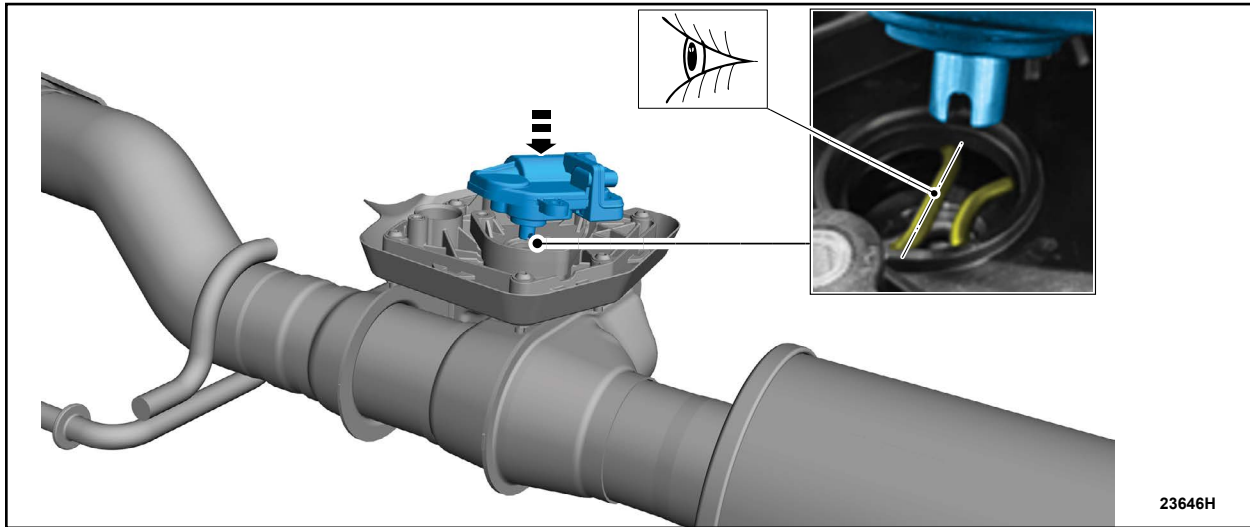

FIGURE 8
8. Align the slot on the actuator with the spring in the heat exchanger and install the actuator on the heat exchanger. See Figure 8.